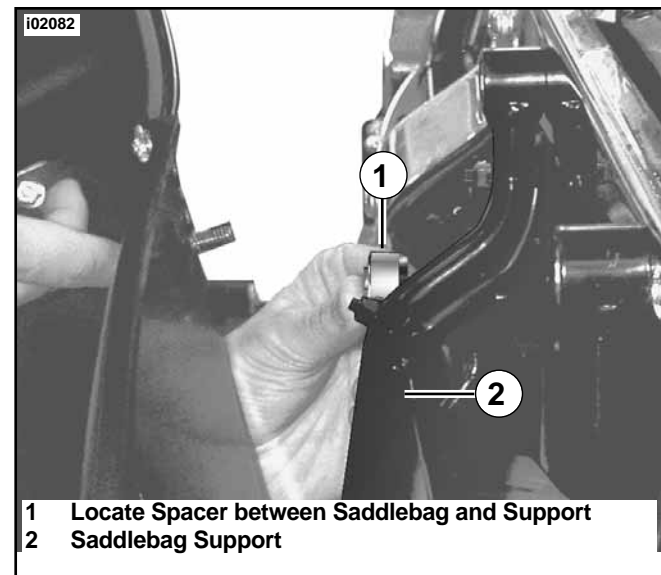

Figure 16. Install Spacer
35. See Figure 16. Hold saddlebag up to support and locate spacer (Part No. 90175-00) between saddlebag and support.